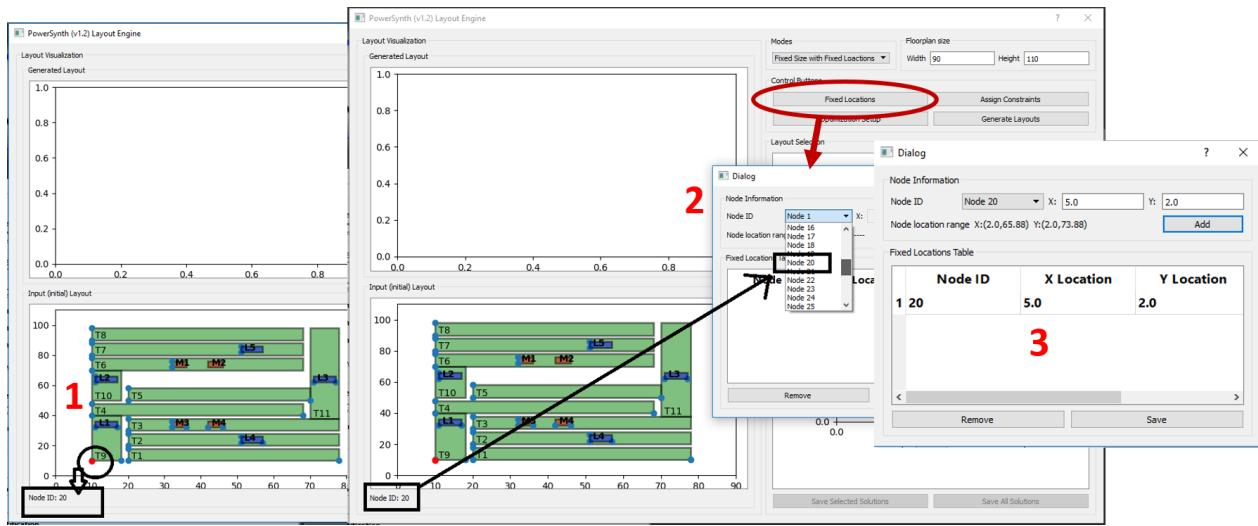

Figure 5: Fixed Location Setup
- **Fixed Size with Fixed Locations:** In this mode, “Width”, “Height” must be given. Besides, one additional requirement is the “Fixed Locations”. This button is used for allocating fixed coordinates to the desired nodes. On this mode, the input layout is updated with click-able dots on possible nodes of the layout as shown in Fig. 5 with marked as "1". To fix a node at certain coordinate, user needs to click on the node and the "Node ID" will appear at the bottom. Then, “Fixed Locations” button needs to be clicked to find the desired "Node ID". Upon selecting the "Node ID" from the drop down list, the valid x and y coordinate range will appear for that node. User needs to choose a value within the range and then "Add" button needs to be clicked to store the location. In the similar way, as much nodes as user want can
provide fixed location and then "Save" button needs to be clicked to apply the location values to the generated layout. A flow is shown in Fig. 5